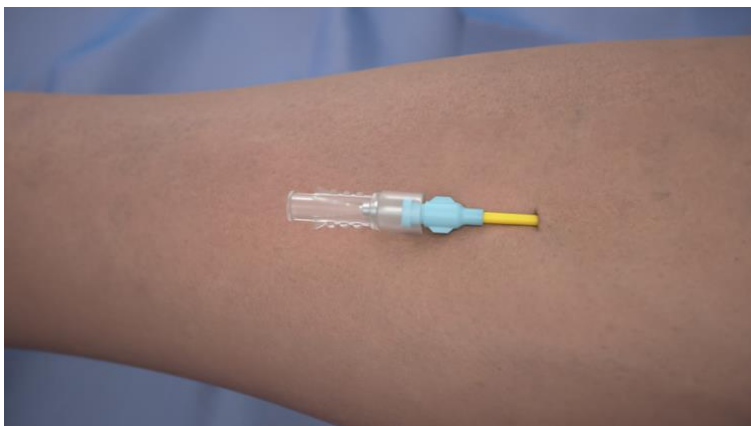

Figure 2
3. Remove the introducer needle stylet. (Figure 2)